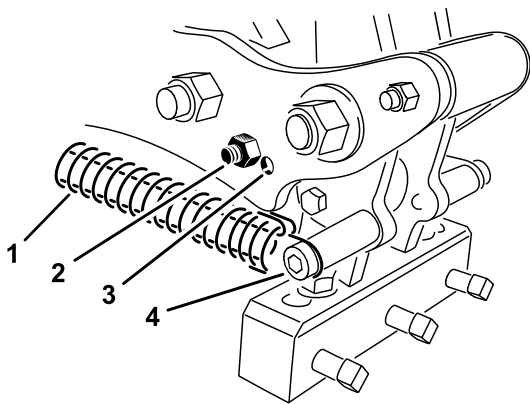

Figure 35
Set the tine angle according to the tine length by using one of the 2 adjustment holes in the linkage arm. These holes are presets only. When using 17.8 mm (7 inch) to 25.4 mm (10 inch) tines, position the head bumper closest to the rear of the tine head. You may need to use the other position—the hole farthest from the head (Figure 35) due to variances of soil conditions.
3. Release the spring tension to the tine head (Figure 35).
4. Remove the bumper bolt and bumper from the linkage arm and reinsert them into the other adjustment hole (Figure 35).